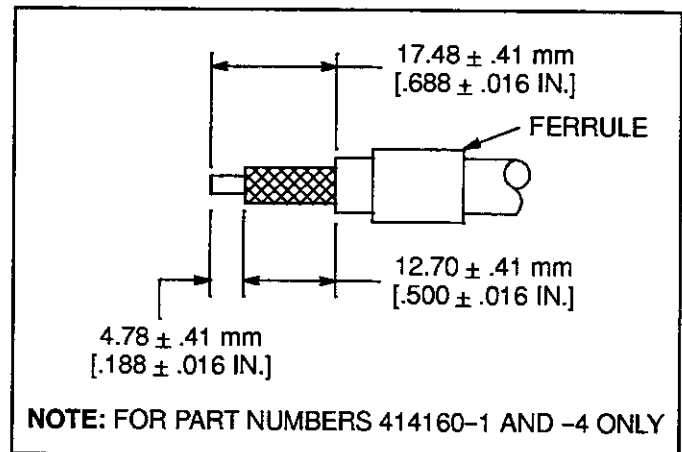

Fig. 2
- Slide ferrule over the end of the cable; then strip cable using the appropriate strip-length dimensions provided in Figure 2, 3, or 4. Flare cable braid, making sure center conductor is straight and free of burrs.